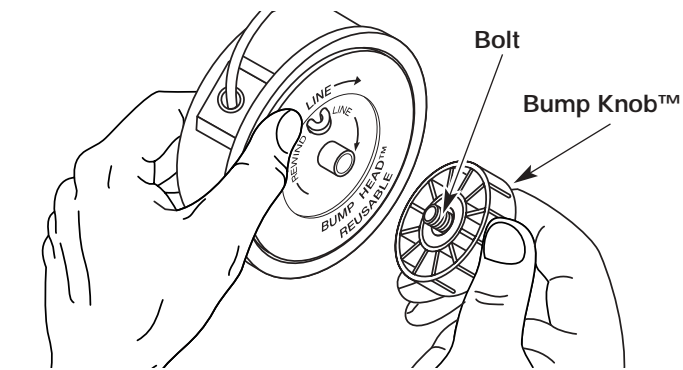

Fig. 15
1. Hold the outer spool with one hand and unscrew the Bump Knob™ counterclockwise (Fig. 15). Inspect the bolt inside the Bump Knob to make sure it moves freely. Replace the Bump Knob if damaged.